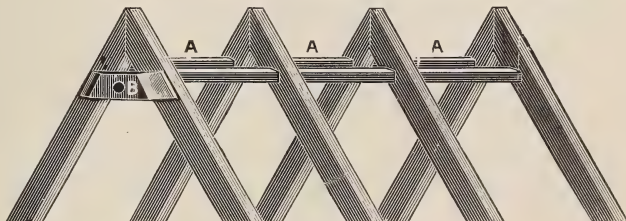

Fig. 4
Fig. 4 illustrates three pairs of braces—AAA, and shows how the inward strain of the track is shared by 4 pairs of rafters.
5. Nail securely between the rafters and directly in line with the ends of the collar ties three pairs of tightly-fitting **braces**, as shown in Fig. 4.